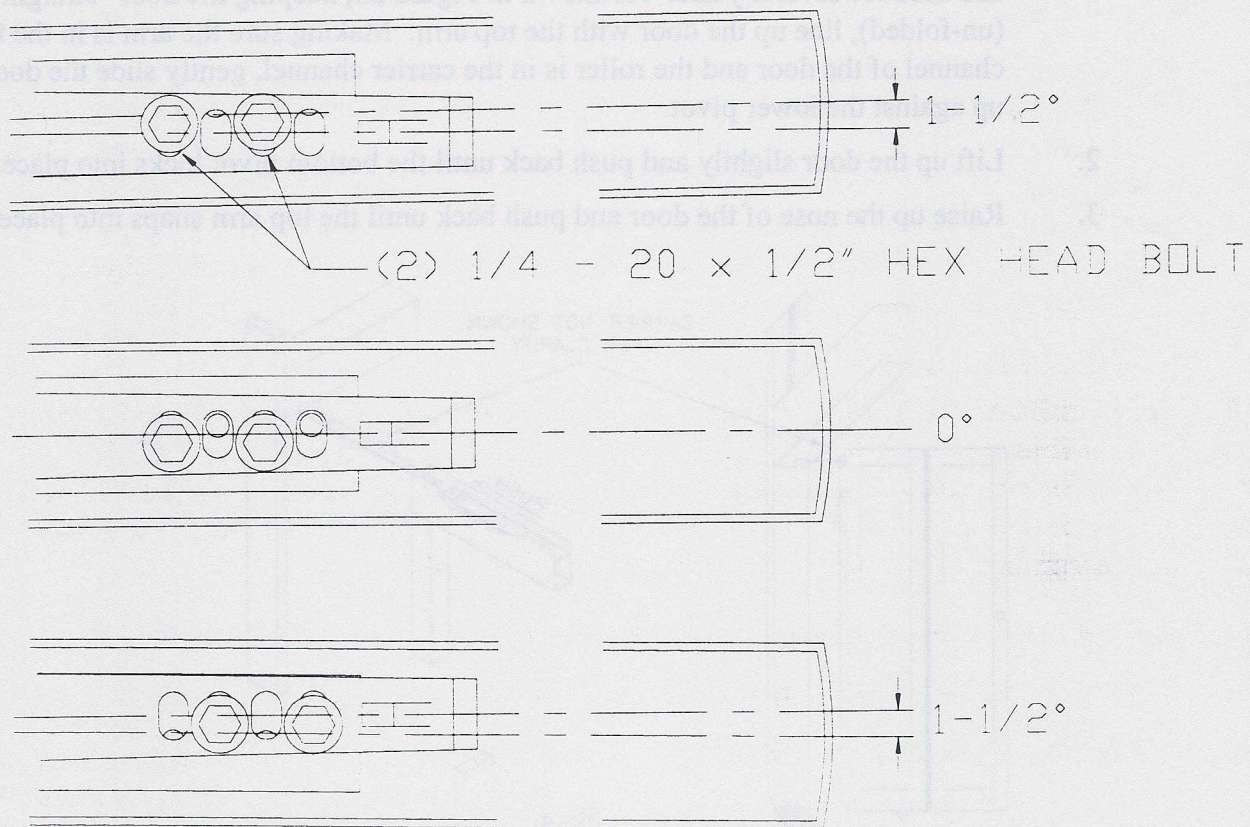

Figure 24: Final adjustment of the 10200 arm.
1. Final attachment and proper centering of the door is provided by the four (4) oval holes in the end of the arm. The oval holes permit the door to be adjusted approximately $1\frac{1}{2}^\circ$ in each direction from the center-line of the arm.
3. Secure the arm to the attaching bar with two (2) $\frac{1}{4}$ -20- $\frac{1}{2}$ " hex head cap screws. Two of the four holes and slots will always line up properly. Fasten using two (2) of the four (4) oval holes as shown. (See Figure 24).